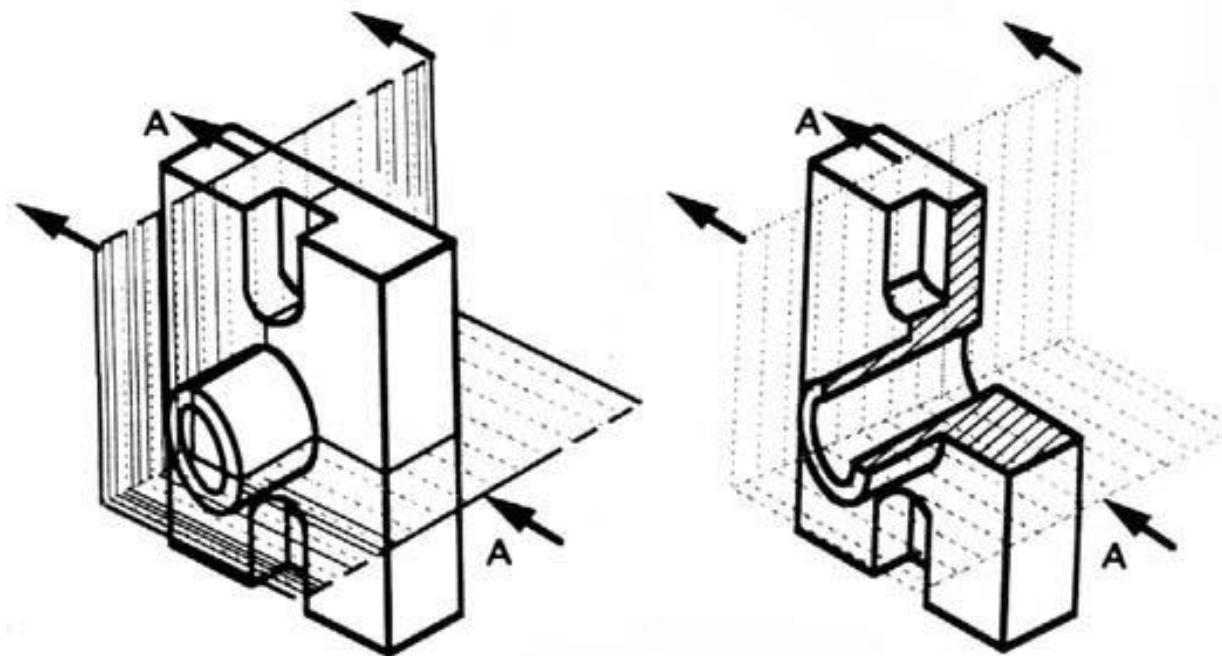

Figure 19 - Full and sectioned isometric views
- A half-section is a view of an object showing one-half of the view in section, as in figure 19 and 20.